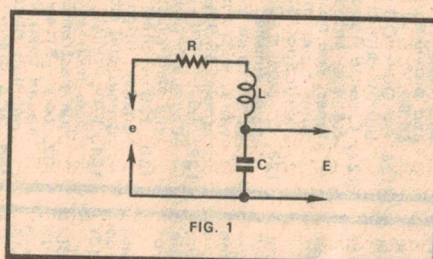

FIG. 1
**BASIC CIRCUITS:** Fig. 1 shows a simple series-resonant circuit corresponding to the above equations. If we inject a small EMF, denoted by  $e$ , at a frequency  $f$ , in series with the tuned circuit, a current  $i$  of the value  $e/R$  will flow when the circuit is tuned to resonance with  $f$ . Then the EMF generated across the inductance will be  $(i \times XL)$  which at resonance equals  $(i \times XC)$ .